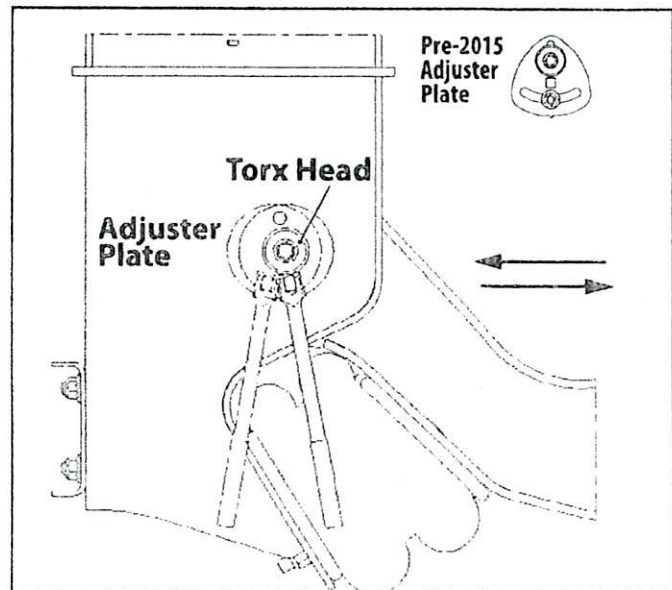

Figure 10.
1. Loosen the pivot nut enough for the beam to move within the hanger (Figure 10).